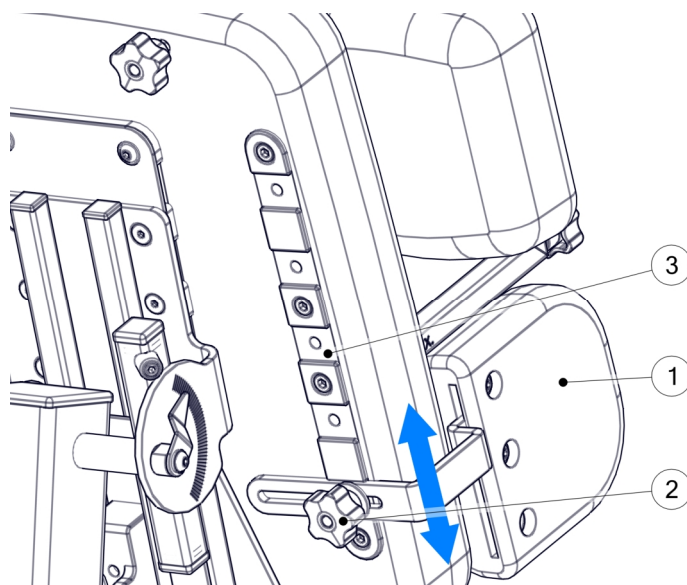

Fig. 9
Hip support (Fig. 9) ensure proper stabilisation of the patient. Regulation of the hip support location is possible both as far as width and height is concerned. Hip supports are assembled independently, and this allows to adjust each hip support individually. In order to set the height of the hip support (1) undo the knob (2) and then select one of the slots in the guiding